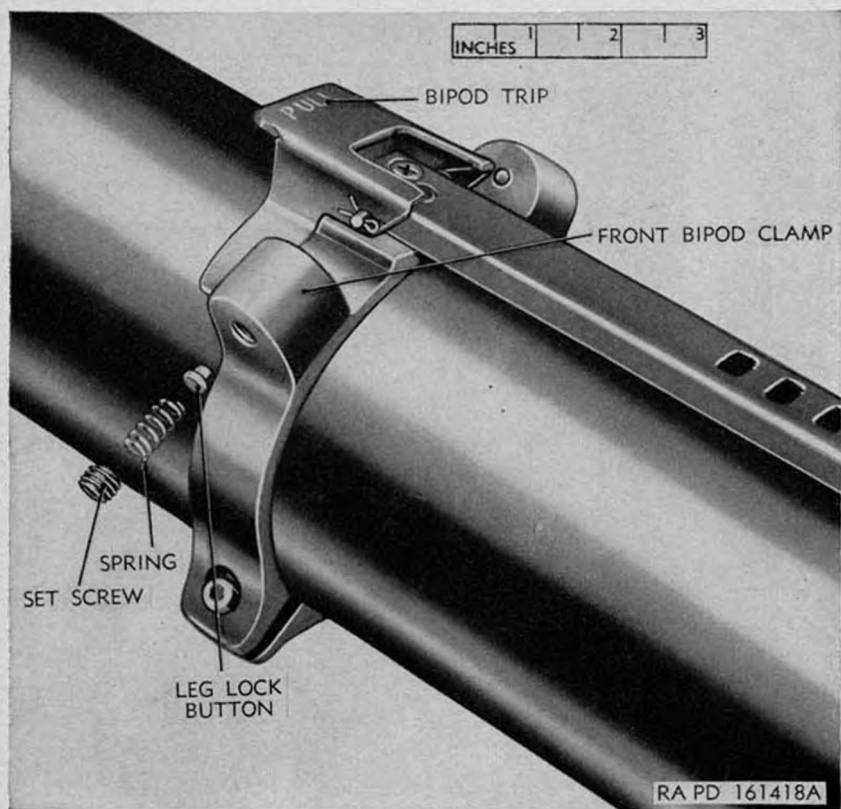
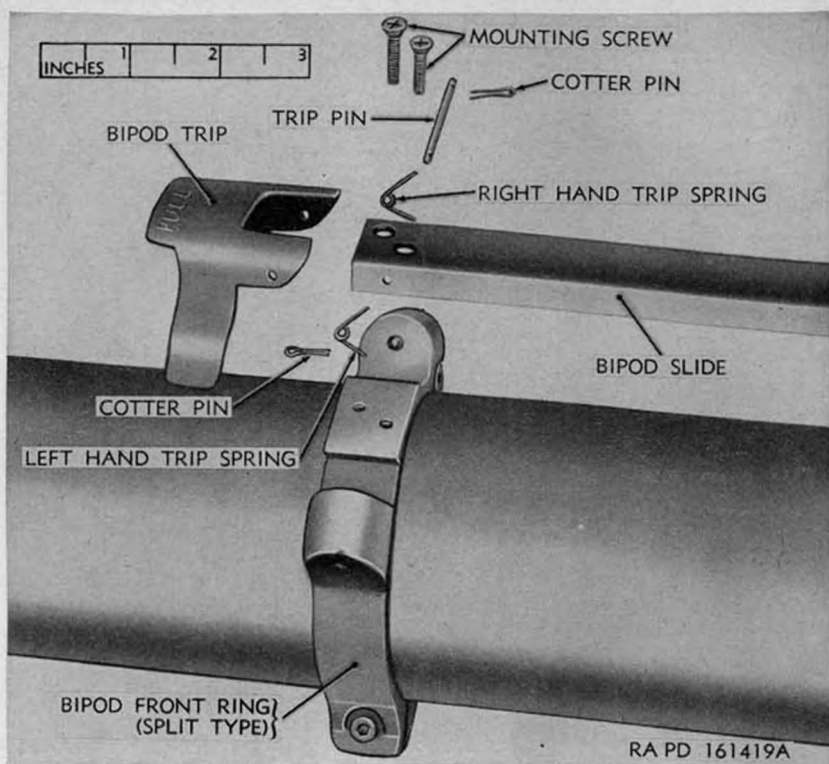

Figure 49. Leg lock button parts—exploded view.
Figure 50. Bipod trip parts—exploded view.
b. Bipod Leg Lock Buttons (fig. 49).
- (1) Unscrew each set screw which retains each leg lock button.
- (2) Withdraw the springs and leg lock buttons.
c. Bipod Trip (fig. 50).
- (1) Remove one of the cotter pins and pull the trip pin toward the opposite side, far enough to free one side of the trip.
a. Bipod Leg Lock Buttons (fig. 49).
- (1) Install the leg lock button in its recess with spherical end first.
- (2) Insert a spring behind each of the leg lock buttons.
- (3) Screw the retaining set screw in place and tighten it. The end of the tapped thread provides a stop, so that tightening the screw will lock it in place.
b. *Bipod Trip* (fig. 50).
- (1) Insert the trip pin in its hole in the slide, return the bipod front ring to its proper position on the front barrel, and install the two mounting screws which fasten the slide to the bipod front ring.
- (2) Pull the trip pin to one side until approximately one-quarter inch is left protruding from the slide. Fit the new trip spring on the pin. Be sure the proper spring is selected.